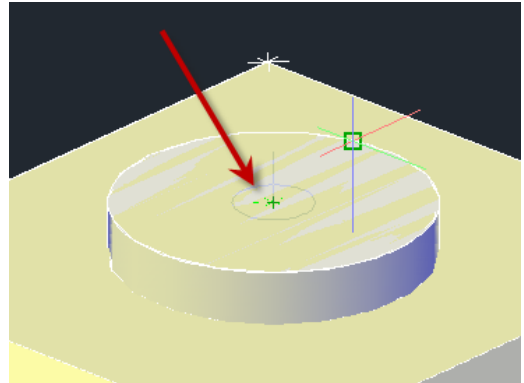

Figure 18
46. Select and then Right click on the Connections TreeNode and select Add Connection... move the cursor over the top surface of the Air terminal and you will see a Connection Preview as shown in Figure 18